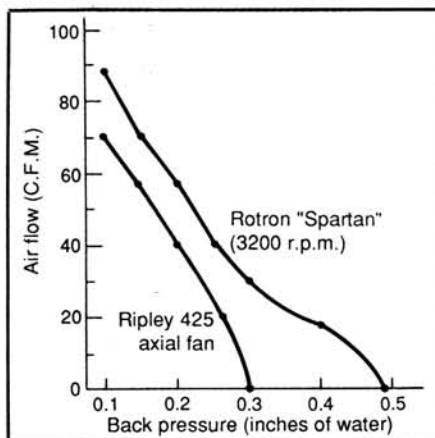

Fig. 3—Plot of small rotary (axial) fan as a function of back pressure and air flow. Rotary fan is satisfactory if air actually reaches filament pins.
**The Rotary Blower.** The solution is to cure the problem, not relieve the symptoms. It is possible to resolder a loose filament sleeve (exerting due caution), but the problem remains unless the base of the tube is cooled properly. It may also be necessary to replace the socket filament receptacles if they have been discolored by the excessive heat, and the socket spring, if it has lost its tension (fig. 3). But this is only a temporary fix, as filament pin temperature is not under control.